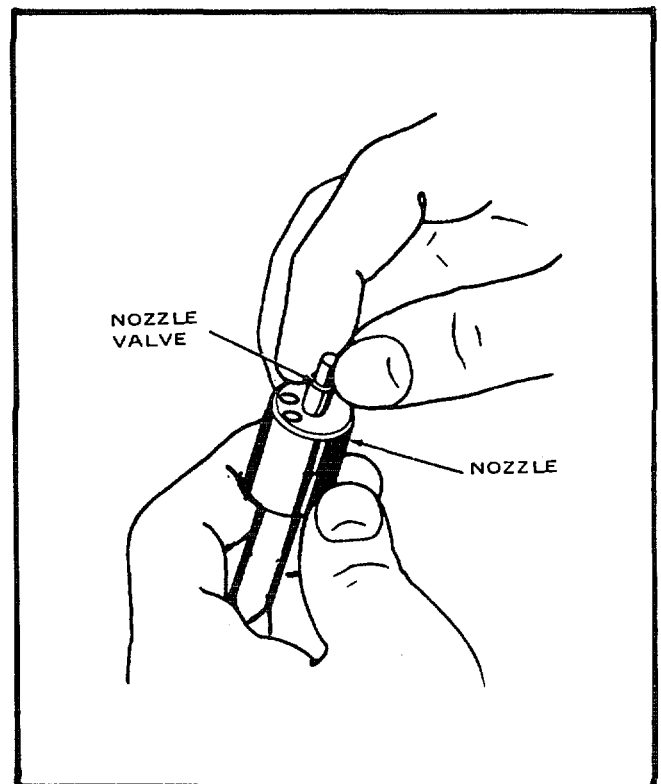

Figure 6-26. Checking Freedom of Valve in Nozzle
(2) Inspect the retainer nut (7) for cracks and re-place it if damaged.
(3) Check the stem and the body of the nozzle. When both parts are wet with fuel oil, no sticking should be evident. Pull the valve out of the nozzle about one-third of its length. When released, the valve should slide freely back to the seat. Foreign matter or scratches on the valve will cause it to stick. Carefully inspect before installing the valve. See Figure 6-26.